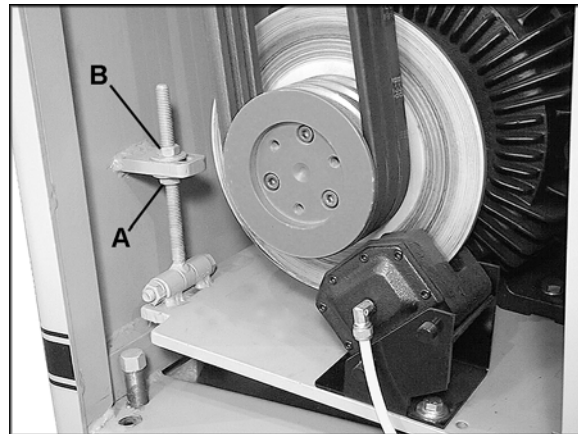

Figure 11
2. Loosen the lower hex nut (A, Figure 11/12) on the motor base.
3. Tighten the top hex nut (B, Figure 11/12) to lower the motor plate until proper tension is achieved.
5. Re-tighten the bottom hex nut (B, Figure 11/12) against the bottom of the motor plate.